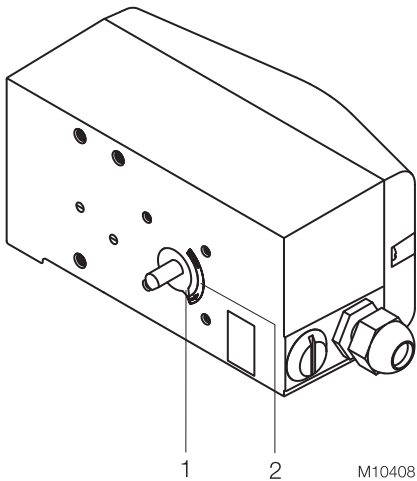

Fig. 2: Working range
To ensure the positioner will operate within the working range (see Fig. 2), the mounting position as well as the home position and direction of rotation of the actuator must be taken into account when determining the adapter position on the feedback shaft (1). For this purpose, the feedback shaft can be adjusted manually so that the adapter (3) can be attached in the correct position.
5. Attach the adapter to the feedback shaft in the correct position and fasten with threaded pins (2). One of the threaded pins must be locked in place on the flat side of the feedback shaft.